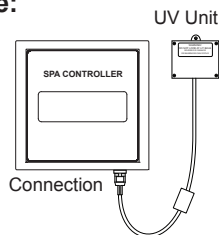

Figure 2
1. Turn the breaker to the spa OFF. DRAIN YOUR SPA. Disconnect the CLEARARRAY System from the controller, Figure 2.